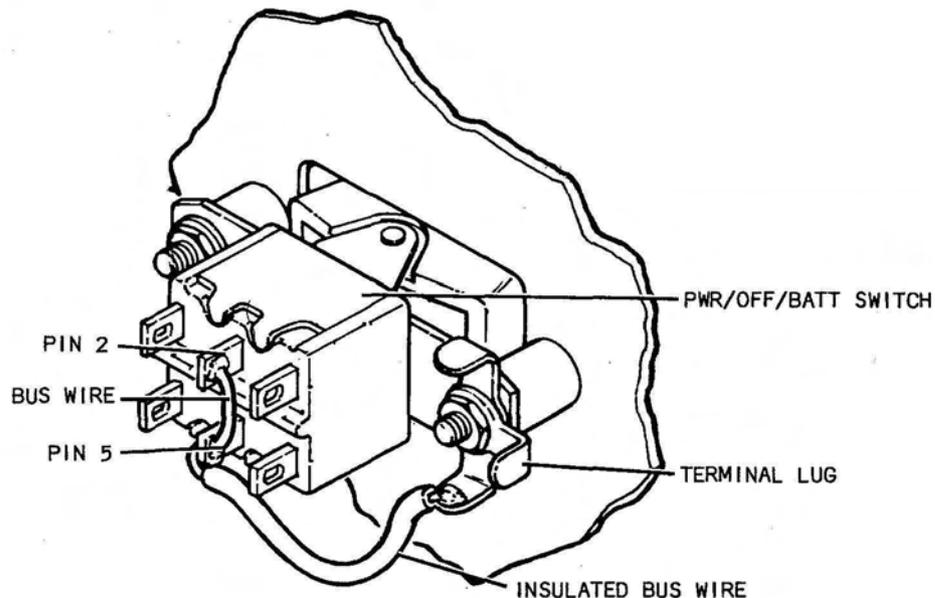

Figure 6-17 PWR/OFF/BATT Switch Installation
1. Spacers (34), switch (33), three terminal lugs (32), two lock washers (31) and two hex nuts (30) to two threaded studs on rear of panel (72).
2. Ensure that switch is installed as shown in Figure 6-17 before soldering wires.